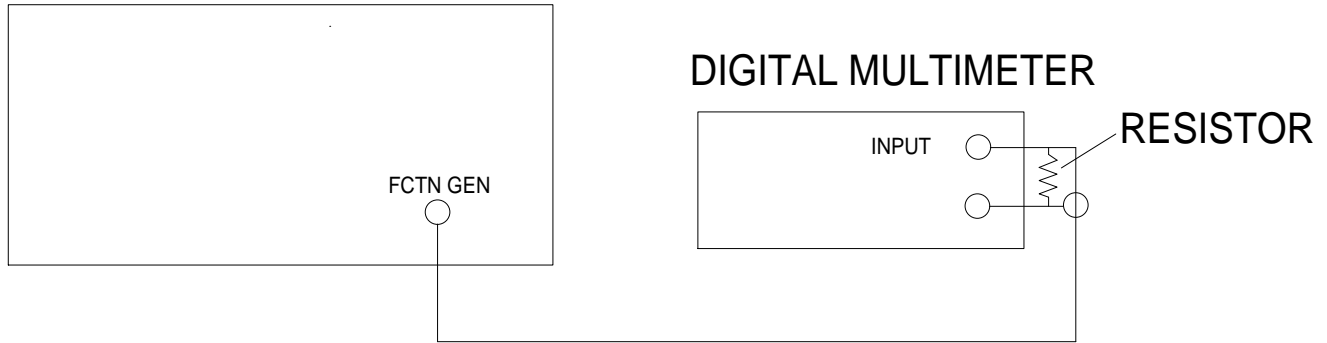

Figure 3.
4.18.2 Connect equipment as shown in Figure 3.